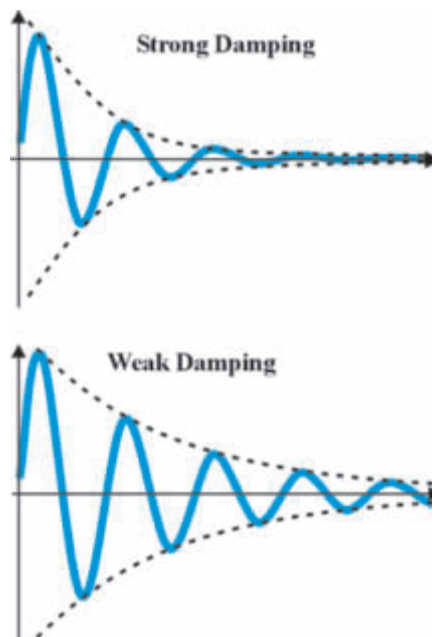

Fig. 6: Damping
Theoretically, i.e. in a frictionless environment, a body that has been caused to oscillate as a result of a single disturbance will continue to oscillate ad infinitum, as the above-mentioned energy conversion will continue infinitely without energy loss. A real system, i.e. a system in an environment to which the laws of friction apply, on the other hand, eventually returns to a state of rest following a single disturbance because some of the energy is constantly dissipated in the form of frictional losses. This process, involving continuously declining amplitudes, is known as “damping”. Real systems are always subject to damping; they differ only in the degree of damping (Fig. 6).
■ In the case of a single excitation, the amplitude of the oscillation diminishes at a rate that depends on the degree of damping (Fig. 6).